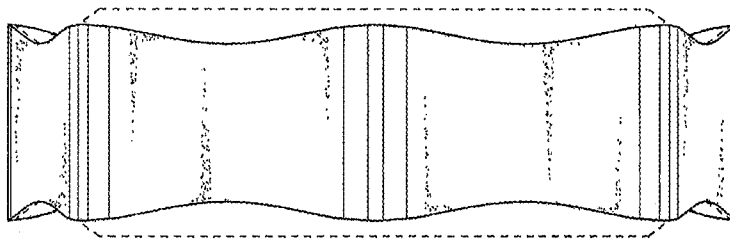

FIG. 23
*FIG. 23 is a bottom plan view of the fourth embodiment.*